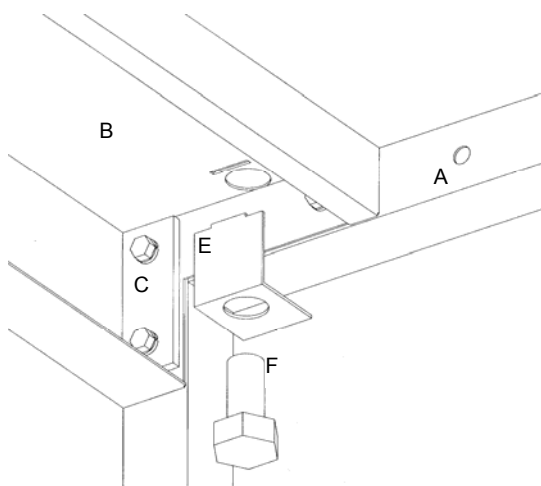

Figure A.2
- 1) Place one stand frame (A) on working surface with threaded holes face up.
- 2) Fit both sides (C), to the stand frame with the screws and washers (E). Ensuring the clamp plates (D) are fitted on the upright sections inside the sides (Figure A.2).
- 3) Place the other stand frame (A) on working surface with threaded holes face up.
- 5) Secure the sides to the stand frame with the screws and washers (E). Ensuring the clamp plates (D) are fitted on the upright sections inside the sides (Figure A.2).
- 3) Secure oven using screws (F). It is essential that the Bolting Bracket (E) is correctly in position, refer Figure A.2. Bolt up through mounting bracket and stand into oven foot plate.